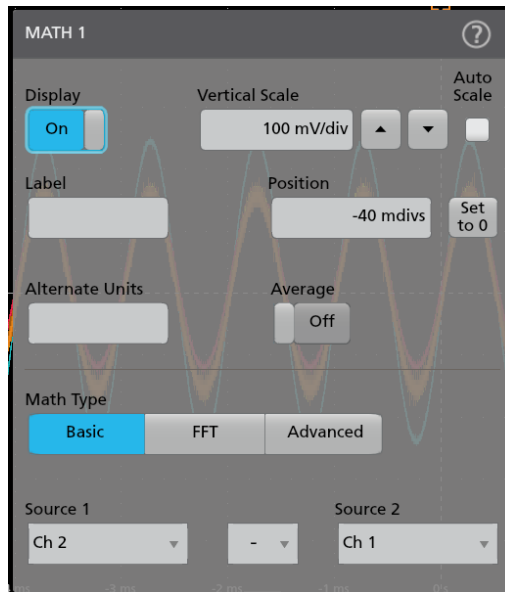

Figure 3. Math channel configuration. Vertical scale: 100 mV/div, Source 1: Ch 2, Operation: “-”, Source 2: Ch 1
3. Instead of hand calculating expected output voltages, the 2 Series MSO features a Math tool to perform mathematic operations on waveforms. Set V_2 to a 1 kHz sine wave with an Amplitude of 1 V and V_1 to an amplitude of 500 mV. Use the vertical scale knob to set all three channels to be 200 mV/div. To use the scaling knob, press the corresponding, colored channel buttons to the right of the knob. The scales for each channel are listed on the left corner of the scope's screen. To add a Math channel, click the Math button. Configure the channel to the settings in Figure 3. The vertical scale is set to 100 mV/div to account for the 2 V gain of the output.